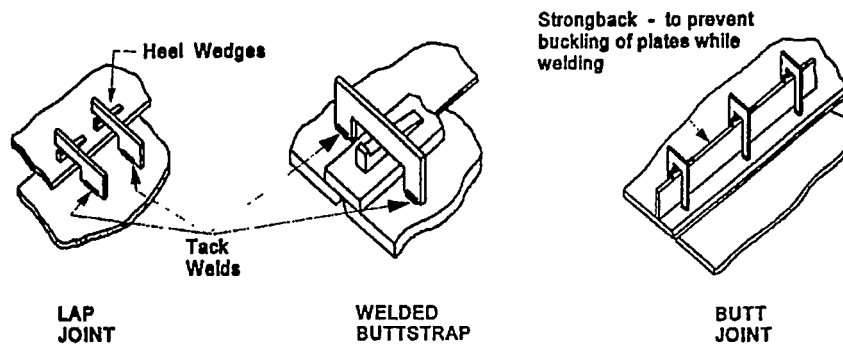

Figure 600-2.76. Methods of Securing Welded Structure
- a. Inspect the bulkhead for straightness. If the bulkhead is warped or twisted, straighten with a strongback. Use an angle or flat bar. If the bulkhead is bowed, make a cut in the plate. Use a strongback to flatten the bowed area and reweld the cut. See figure 600-2.76.